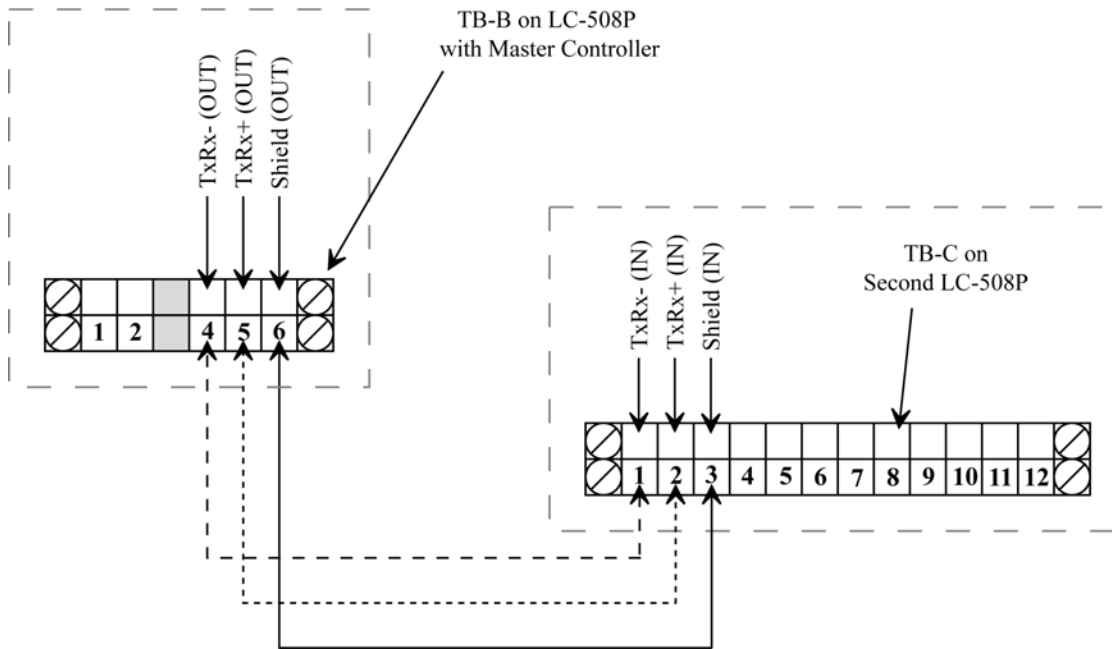

Figure 14: LC-508P to LC-508P Network Communication Wiring
- Daisy-chain the TxRx+, TxRx-, and Shield Network Communication connections from the terminal strip on the first panel to the terminal strip on the second panel. Make the connections per the information in Table 8 and Figure 14.